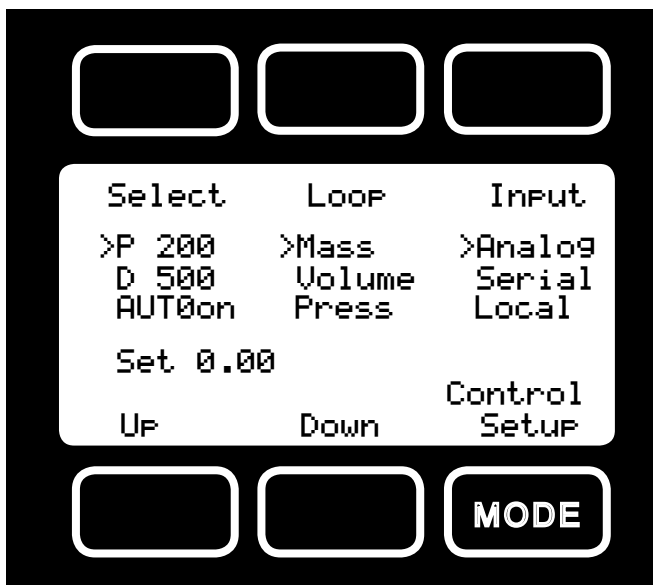

Figure 8. MC Series Control Setup Display
**Input** – Alicat Scientific Flow Controllers normally ship defaulted to analog control as indicated in Figure 8. To change how the set-point will be conveyed to the controller push the button in the upper right hand corner just above the dynamic label “Input” until the arrow is directly in front of the desired option. The controller will ignore any set-point except that of the selected input and it will remember which input is selected even if the power is disconnected.